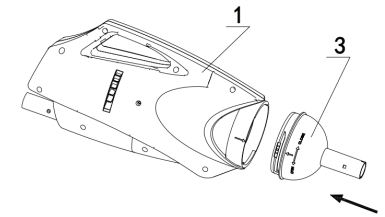

Fig 2
2. Install the vacuum body cover (3) onto the vacuum body (1). Turn the cover (3) clockwise to securely lock it to the vacuum body. See fig 2;